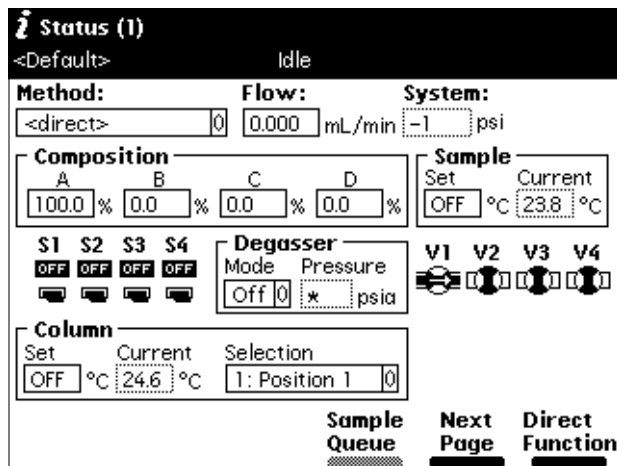

Figure 3-13 Status Screen
1. Press **Menu/Status**. The Status screen is displayed (Figure 3-13).
2. Press the **Next Page** screen key (if necessary) to display the degasser fields (Figure 3-13).